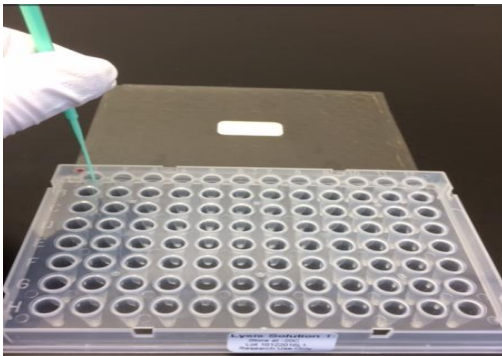
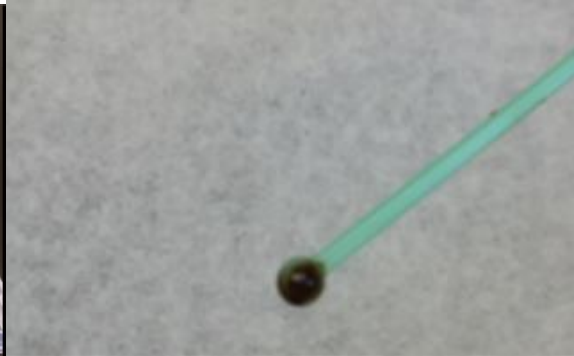

Figure 1.
Figure 2.
- 5.1.2. Using sterile inoculating loop, transfer **~3 mg** of each fecal sample to the corresponding labeled well (Fig. 1 and Fig. 2). Spin each loop to disperse the sample in Lysis-1, and discard loop. Do not mix; **do not exceed 10mg of fecal sample**.